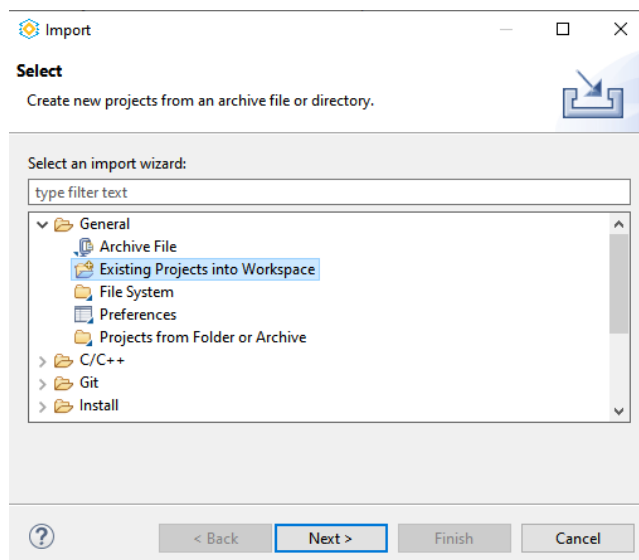

Figure C.33. Existing Project into Workspace
- Select **Existing Project in Workspace** from the general list and click **Next** as shown in Figure C.33.